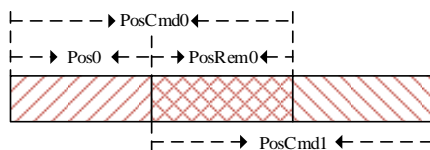

Fig. 12.14 Schematic diagram of relative position command operation
② The relative position command takes the actual position value as the reference point. The position command value of the next segment takes the actual position value in operation as the reference point to calculate the target position value. As shown in Figure 12.14, the Setting value of the first segment position command is $PosCmd0$, and after running the pulse of $Pos0$, the second segment relative position command $PosCmd1$ is inserted, then the total number of pulses run by the second segment position command is $PosCmd1$, and the final operation position value is $Pos0 + PosCmd1$.